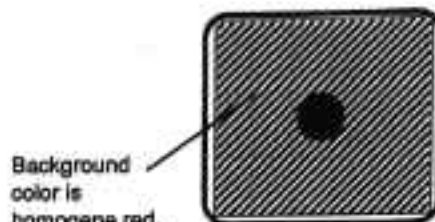

Figure 8.2.3.4.3. Aperture adjustment with a homogeneous backlight system
- Step 4:** Look at your vision monitor while **slowly** opening the aperture ring. Do this very slowly as the distance that you have to move is very minor. On the vision monitor the background will start changing colors. The aperture must be set in such a way that the color RED is shown **on the whole screen**. The background LED is a homogeneous backlight system. This must also be represented on the vision monitor by means of a complete red screen (**note:** if the field of view gets larger it might be that the borders are of a green color) When set correctly, the aperture ring will be set near to an aperture of 16. For setting the aperture ring, refer to figure 8.2.3.4.1., refer to figure 8.2.3.4.3. for the vision monitor appearance.